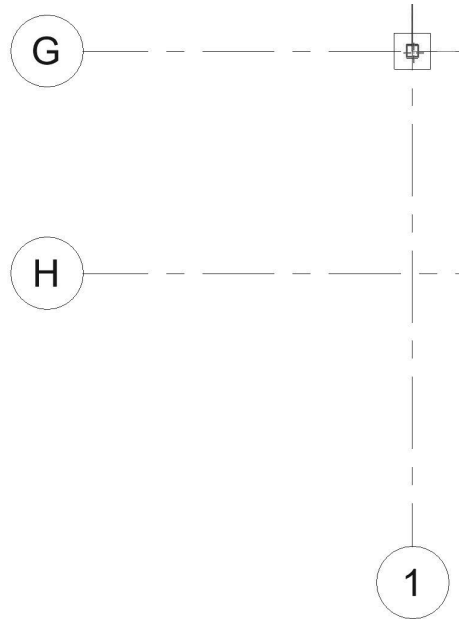

Figure 7–42
7. Select the start point by snapping to the **G1** grid intersection, as shown in Figure 7–42.